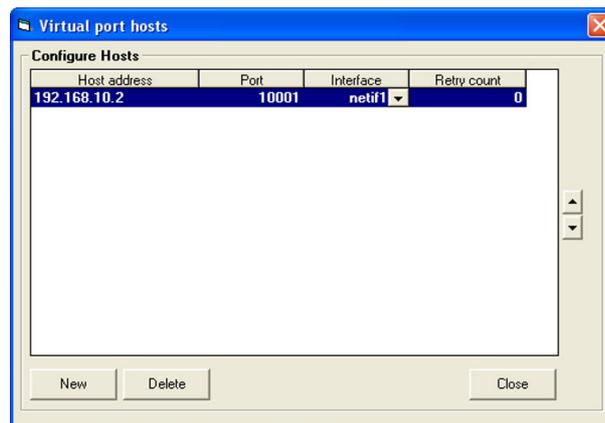

Figure 123 Remote Host Configuration for Virtual COM Ports
1. Click the **Configure hosts** button at the bottom of the virtual COM port parameter view. The **Virtual port hosts** dialog shown in Figure 123 on page 270 is displayed.